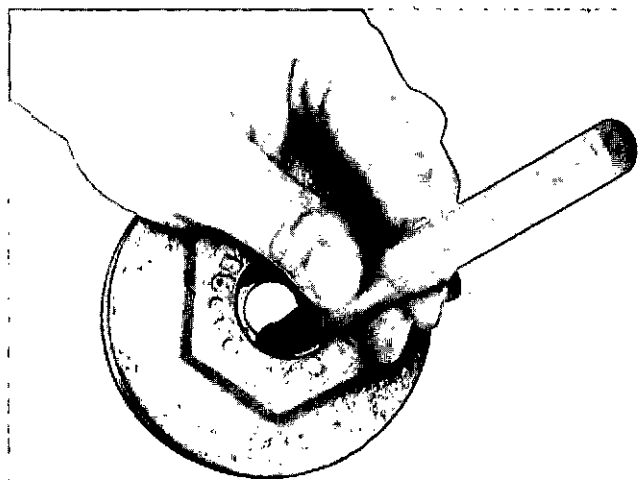

Fig. 8-20 (N10863). Remove The Bearing From The Pulley.
13. Remove the oil seal (7, Fig. 8-15) and retaining ring (6) from the pulley. Use the flat end of a punch to push the bearing (5) from the pulley, Fig. 8-20. Discard the oil seal and bearing.